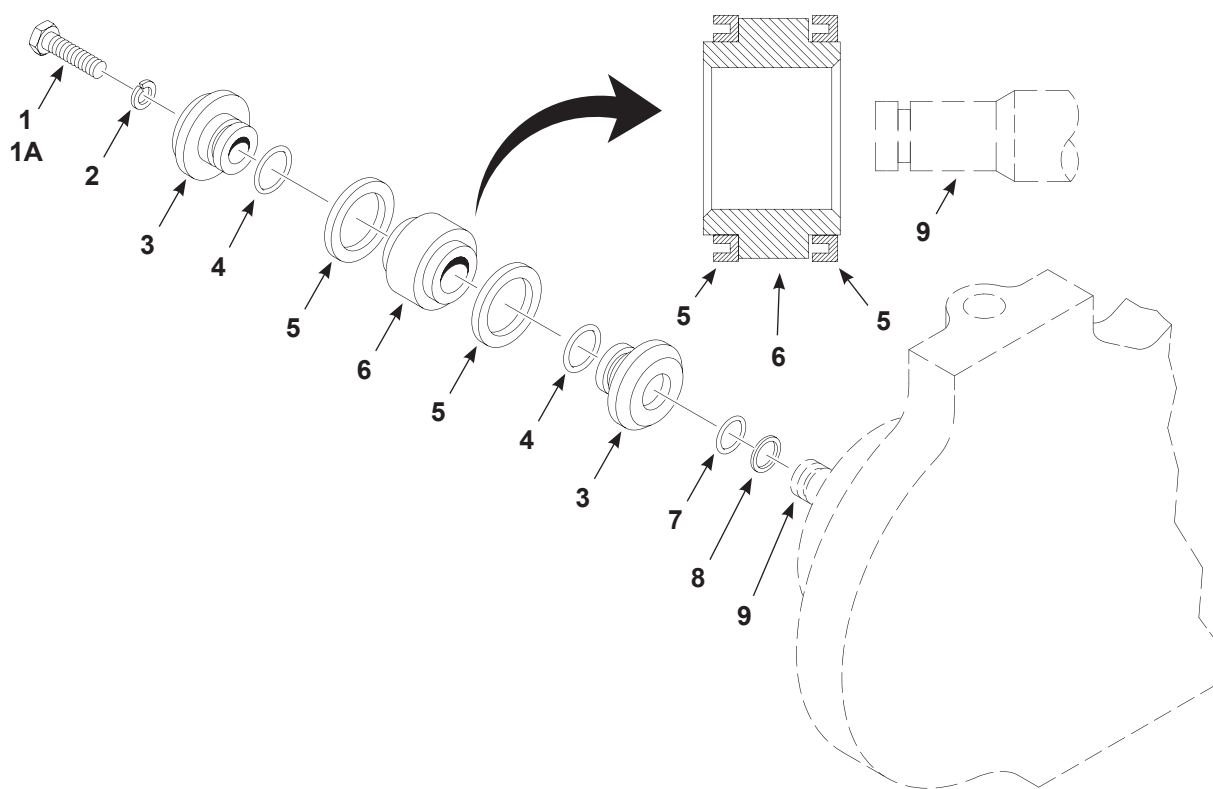

Figure 6-2 Hydraulic Section Removal
See Figure 6-2. The Hydraulic Packing Service Kit contains items 4, 5, 7, and 8, plus the high-pressure cylinder O-rings.